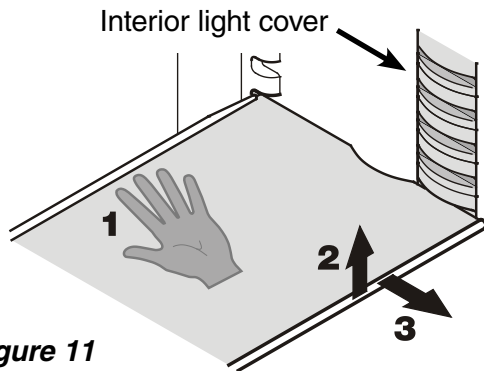

Figure 11
Repositioning the shelves - *Figure 11*
- Remove glass shelves as shown in *Figure 11*.